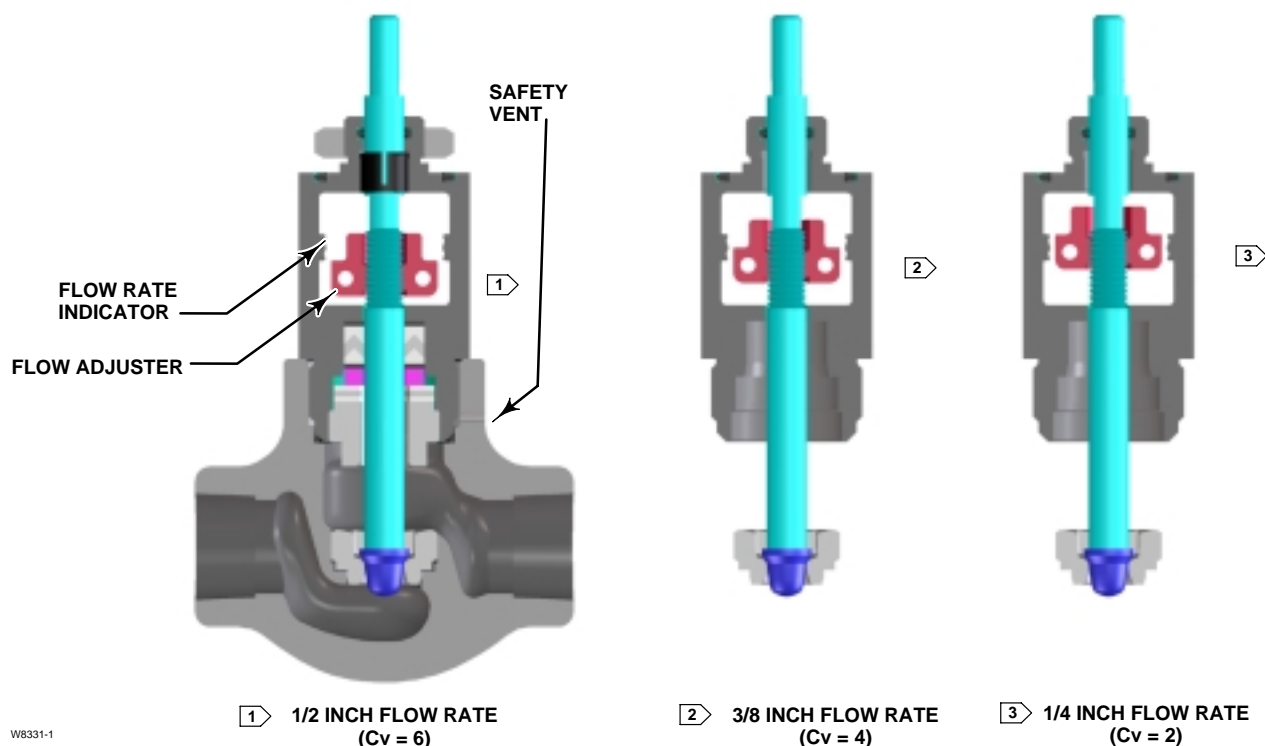

Figure 4. Flow Rate Adjustments
1. To change the valve flow rate, loosen the flow adjuster socket head cap screws (key 29), and reposition the flow adjuster halves (key 14 and 15) to the desired flow rate position. See figure 4 for flow rate settings.
2. To change the valve flow rate, loosen the flow adjuster socket head cap screws (key 29), and reposition the flow adjuster halves (key 14 and 15) to the desired flow rate position. See figure 4 for flow rate settings.
Avoid personal injury from sudden release of process pressure. If the process media starts to escape from the safety vent (see figure 4) located in the bonnet neck of the valve body,
9. Set the flow adjuster to the desired travel position (see figure 4), and tighten the flow adjuster socket head cap screws to 3 N•m (26 lbf•in).
27. Set the flow adjuster to the desired travel position (see figure 4), and tighten the flow adjuster socket head cap screws to 3 N•m (26 lbf•in).